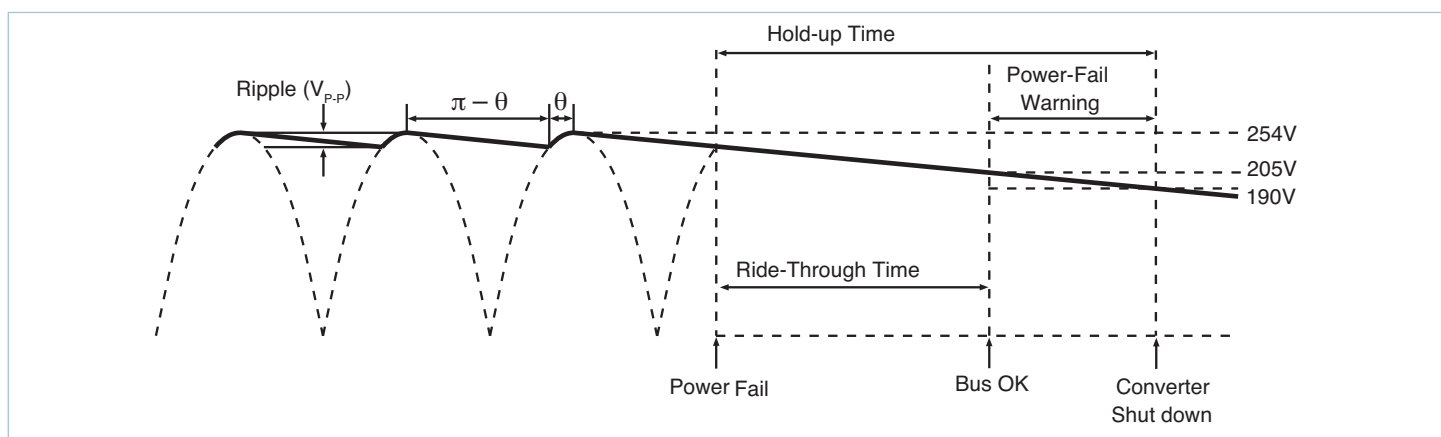
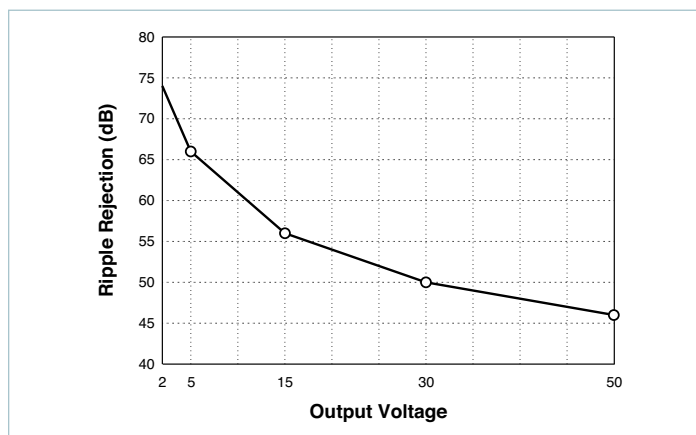

Figure 8.7 — General timing diagram of bus voltage following interruption of the AC mains
Figure 8.11 — Converter ripple rejection vs. output voltage (typical)
Hold-up Capacitors: Hold-up capacitor values should be determined according to output bus voltage ripple, power fail hold-up time, and ride-through time. (Figure 8.7)
The power-fail warning time (Δt) is defined as the interval between Bus OK and converter shut down (EN) as illustrated in Figure 8.7. The Bus OK and Enable thresholds are 205 and 190V, respectively. A simplified relationship between power-fail warning time, operating power, and bus capacitance is obtained by inserting these constants:
For example, a converter whose output is 15V and nominal input is 300V will provide 56dB ripple rejection, i.e., 10V_{p.p} of input ripple will produce 15mV_{p.p} of output ripple. (Figure 8.11) Equation 3 is again used to determine the required capacitance. In this case, V_1 and V_2 are the instantaneous values of bus voltage at the peaks and valleys (Figure 8.7) of the ripple, respectively. The capacitors must hold up the bus voltage for the time interval (Δt) between peaks of the rectified line as given by:
(Figure 8.7)
Figure 8.11 is used to determine the ripple rejection of the DC-DC converter and indicates a ripple rejection of approximately 60dB for a 12V output. Since the ripple on the bus voltage is 12V_{AC} and the ripple rejection of the converter is 60dB, the output ripple of the converter due to ripple on its input (primarily 120Hz) will be 12mV_{p-p}.